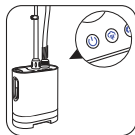

fig.16
1. Plug in the power cord and switch on the power button. The power light will illuminate. The steamer is operating. (fig.16)